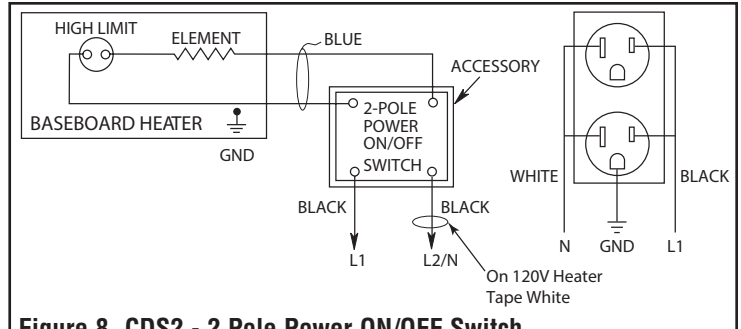

Figure 8. CDS2 - 2 Pole Power ON/OFF Switch With 120V Duplex Receptacle
6. Connect wiring to accessory using the appropriate wiring diagram. See Figure 8.